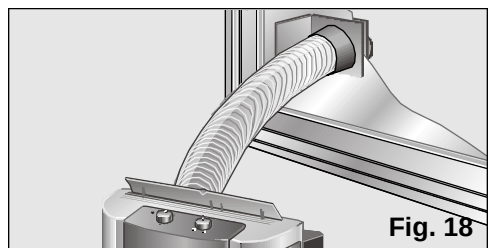

Fig. 18
- ❑ If permanent installation is to be performed through the window, then it is only necessary to use the transparent end piece on the accessory. A 14 cm diameter hole needs to be cut in the glass, **Fig. 18.**